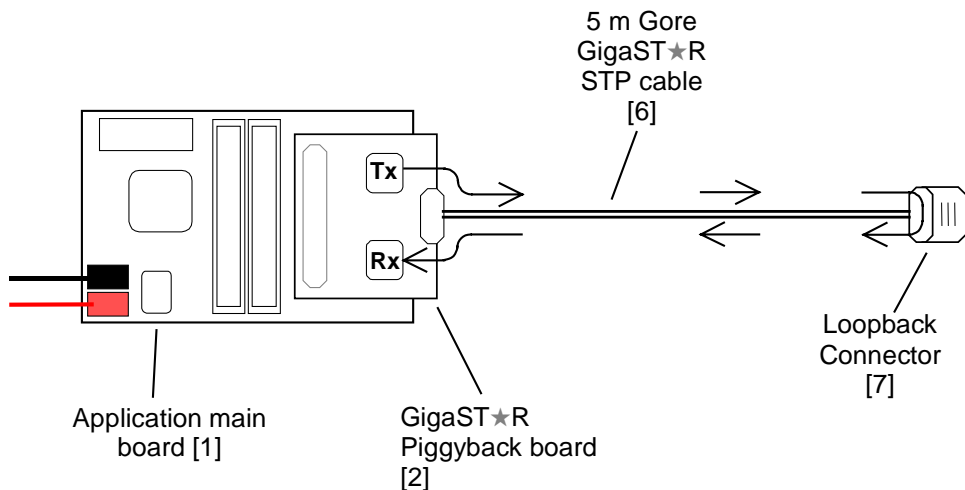

Figure 6: Single Application Kit data flow using the loopback connector
Submenu (4) “Tx-Rx-Loopback” (available for loopback configuration as shown in figure 6)
Submenu option (B) “BER” (available for loopback configuration as shown in figure 6)